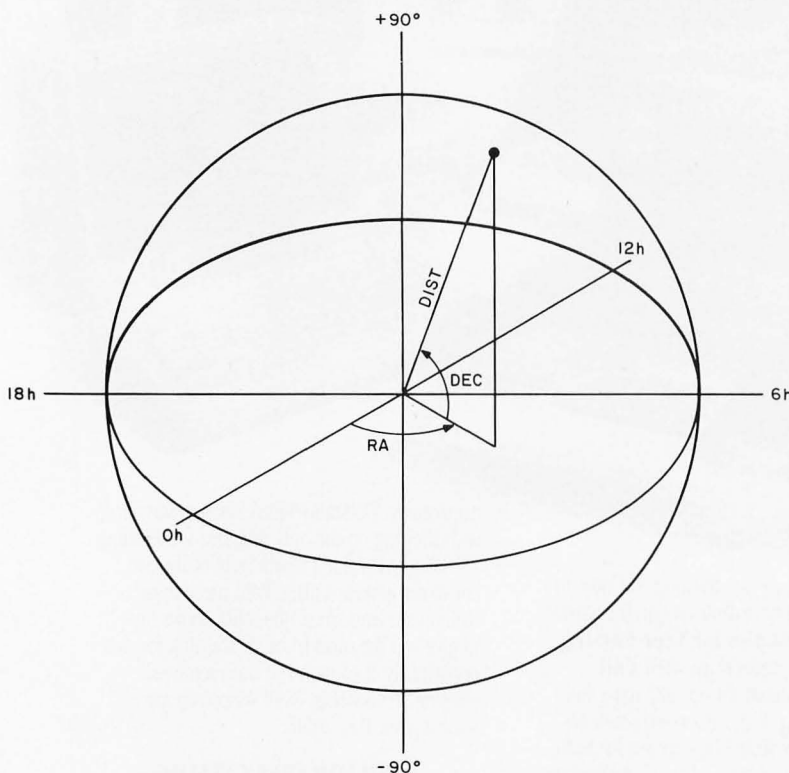

Figure 1: The celestial coordinate system.
Several things are needed to simulate the stars in our galaxy; an algorithm that will allow us to shift our position with respect to the Earth based coordinate system; actual or hypothetical coordinates of stars; and a display device on which to plot the resulting star maps. The first version of this program was written four years ago and run on an IBM 1130 computer. Output was in the form of a printer plot. 50 stars were entered, using data on the 50 brightest stars in our sky. Since positions given in star catalogs are in celestial (spherical) coordinates, right ascension (RA) corresponding to longitude (0 to 23 hours), declination (DEC) corresponding to latitude (-90 to $+90$ degrees), and distance in light years were entered directly into a disk file. The program then performed the necessary conversions to get values in radians. Figure 1 shows the celestial coordinate system.